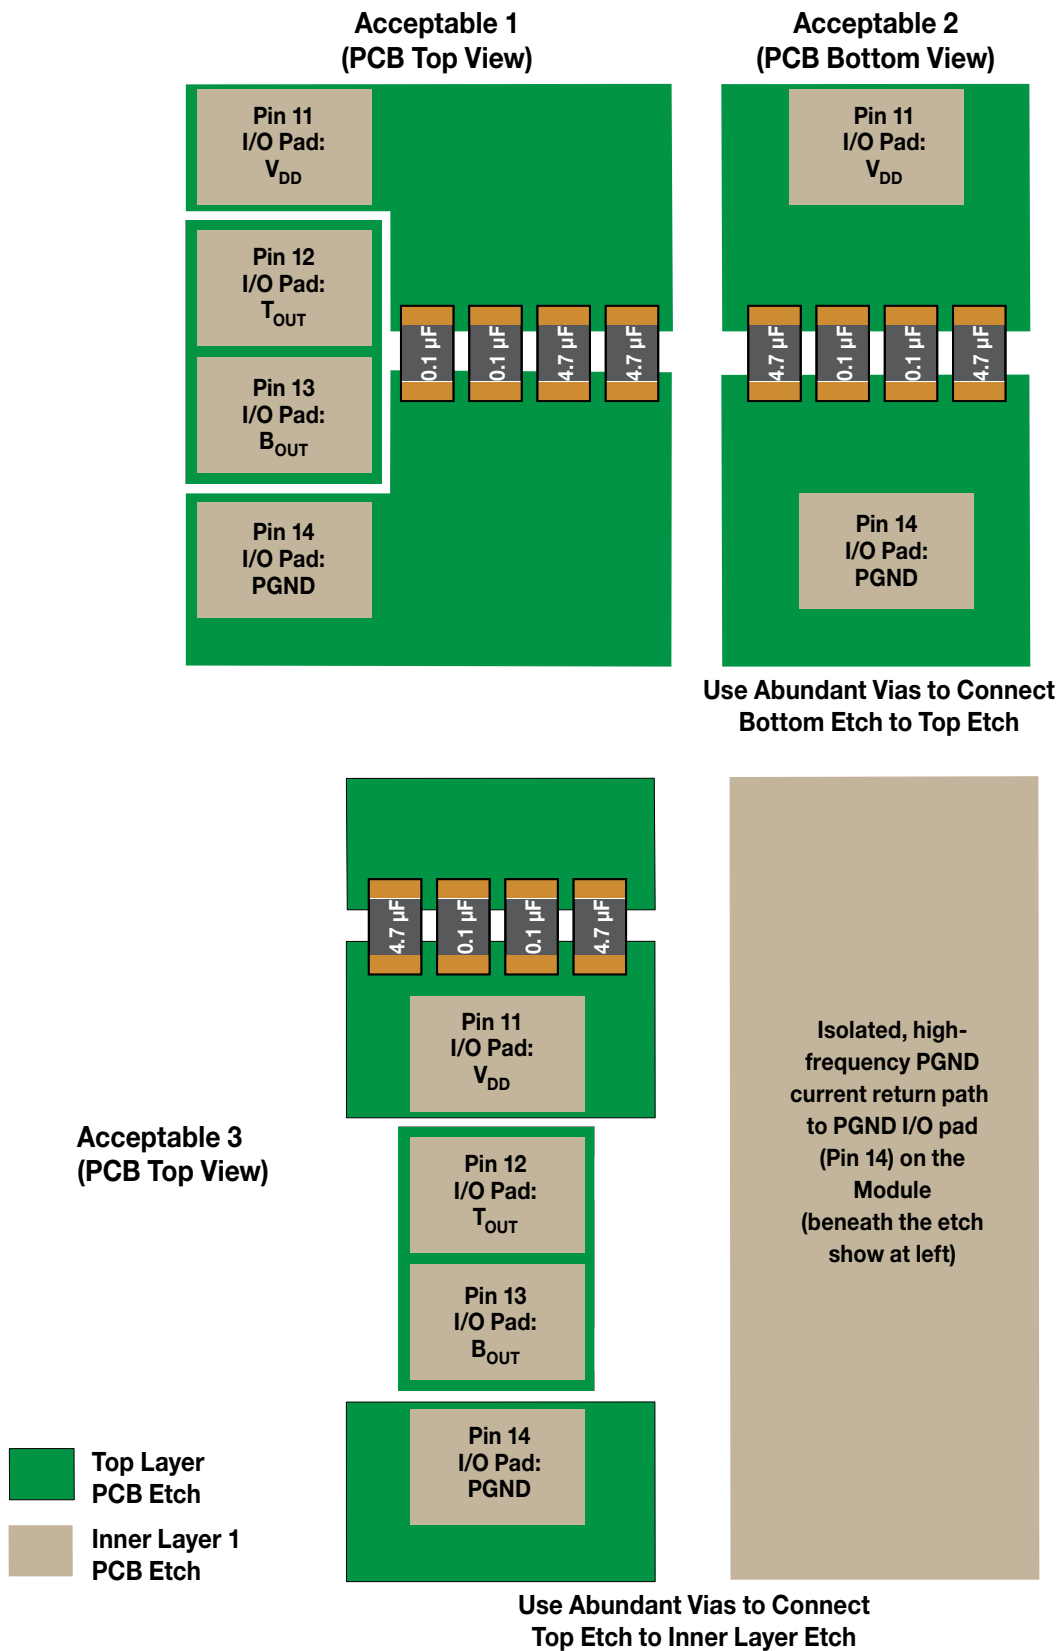

Figure 15. Recommended V_{DD} -to-PGND Power Supply Bypassing (Not to Scale)
The power supply pins and return pin of the 72-001-GAM02 require proper high frequency bypassing to one-another in order to prevent harmful switching noise-related spikes from degrading or damaging the internal circuitry in the 72-001-GAM02 module. The more critical bypassing situation is related to the V_{DD} supply to PGND (Pin 14), which bears the high rate-of-change voltages and currents associated with the internal eGaN® power switches interacting with a load. It is recommended that a minimum of two (2) 4.7 microfarad ceramic capacitors, one (1) 1.0 microfarad ceramic capacitor and one (1) 0.1 microfarad ceramic capacitor, all with 100 V_{DC} ratings, be connected from V_{DD} to PGND. All four of these capacitors should be low ESR types, if possible. It is strongly recommended that these capacitors inscribe the smallest possible loop area between V_{DD} and PGND so as to minimize the inductance related to this loop area. Figure 15 illustrates three instances of recommended and acceptable V_{DD} -PGND bypassing, as implemented in PCB copper etch. Regardless, different end-use implementations will require different V_{DD} bypass capacitor placements, and it is strongly recommended that the chosen bypassing scheme be evaluated in hardware for its effectiveness.